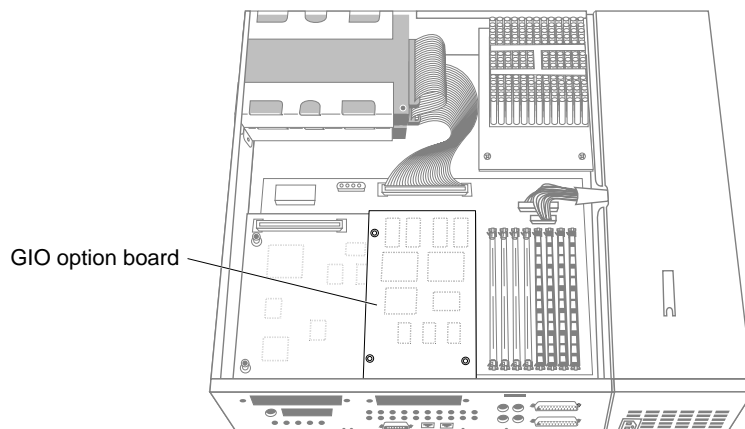

Figure 8-2 Locating the GIO Option Board
5. Move the system or position yourself so that you are facing the rear of the system as shown in Figure 8-2.
GIO option boards are installed on top of the graphics board. A single-width GIO option board covers half of the graphics board; a double-width covers the entire graphics board. Figure 8-2 shows a single-width board.